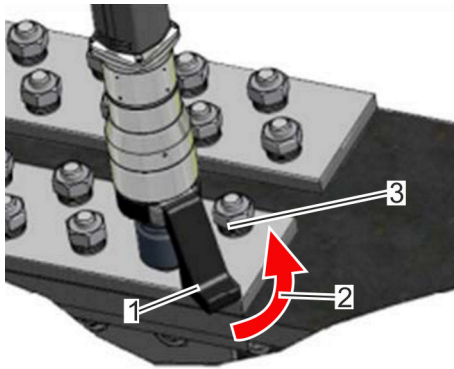

Fig. 45: Starting rotation angle
5. ➤ Ensure that the reaction arm (Fig. 45/1) is braced against a bracing surface/abutment (Fig. 45/3) on its side facing the nutrunner's desired direction of rotation. Ensure that there is full contact. Note the starting angle of rotation (Fig. 45/2).